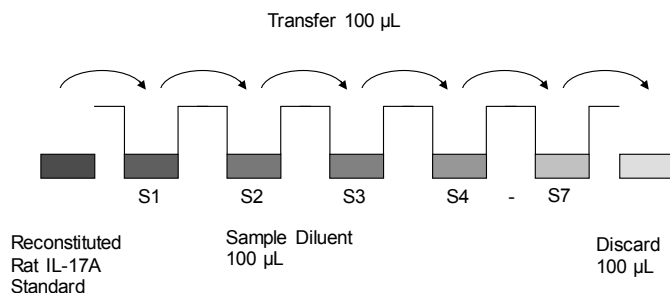

Fig. 7 Dilute standards - microwell plate
- Standard dilution on the microwell plate (Alternatively the standard dilution can be prepared in tubes - see "External standard dilution" on page 3.): Add 100 µL of Sample Diluent in duplicate to all standard wells. Pipette 100 µL of prepared standard (see "Rat IL-17A standard" on page 3 concentration = 200 pg/mL) in duplicate into well A1 and A2 (see Table 1). Mix the contents of wells A1 and A2 by repeated aspiration and ejection (concentration of standard 1, S1 = 100.0 pg/mL), and transfer 100 µL to wells B1 and B2, respectively (see Figure 7). Take care not to scratch the inner surface of the microwells. Continue this procedure 5 times, creating two rows of rat IL-17A standard dilutions ranging from 100.0 to 1.6 pg/mL. Discard 100 µL of the contents from the last microwells (G1, G2) used.